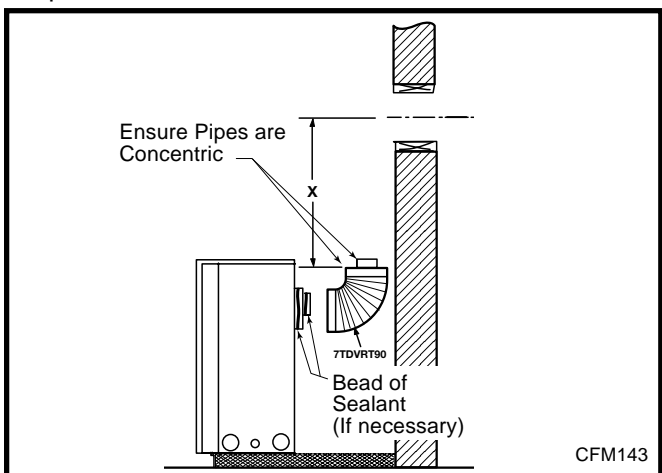

Fig. 24 Apply sealant to inner and outer pipe.
Apply a bead of high temperature sealant to the inner and outer flue collars of the fireplace and using appropriate venting component(s) attach to fireplace with three (3) screws. (Fig. 24) Follow with the installation of the inner and outer elbow. Again secure joints with three (3) sheet metal screws. Wipe off any excess high temperature sealant.